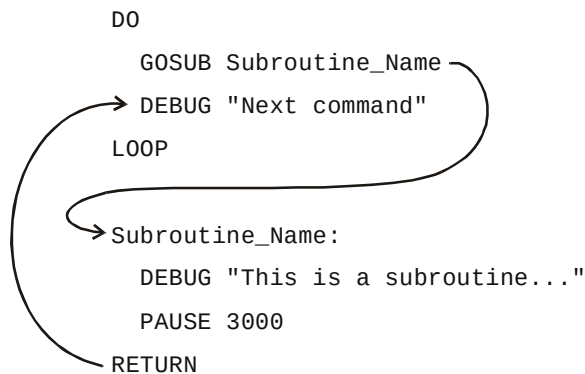

Figure 7-11
Figure 7-11 shows an example of a subroutine and how it's used. The command **GOSUB Subroutine_Name** causes the program to jump to the **Subroutine_Name:** label. When the program gets to that label, it keeps running and executing commands until it gets to a **RETURN** command. Then, the program goes back to command that comes after the **GOSUB** command. In the case of the example in Figure 7-11, the next command is: **DEBUG "Next command"**.
- ✓ Add the subroutine shown in Figure 7-11 on page 216 to SimpleSubroutines.bs2.